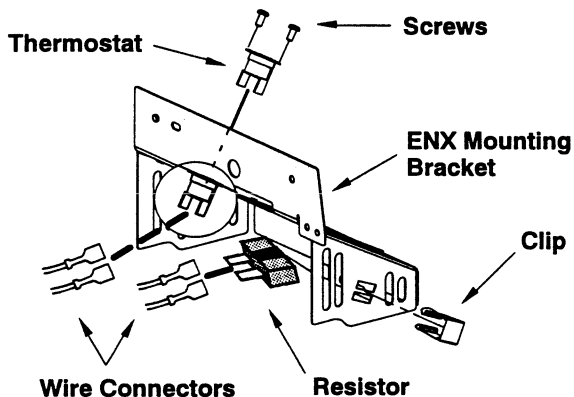

Figure 5-24. ENX Mounting Bracket
3. Remove two screws securing thermostat and disconnect wire connectors. Figure 5-24.
For ENX single lamp, remove the metal clip. Figure 5-24.